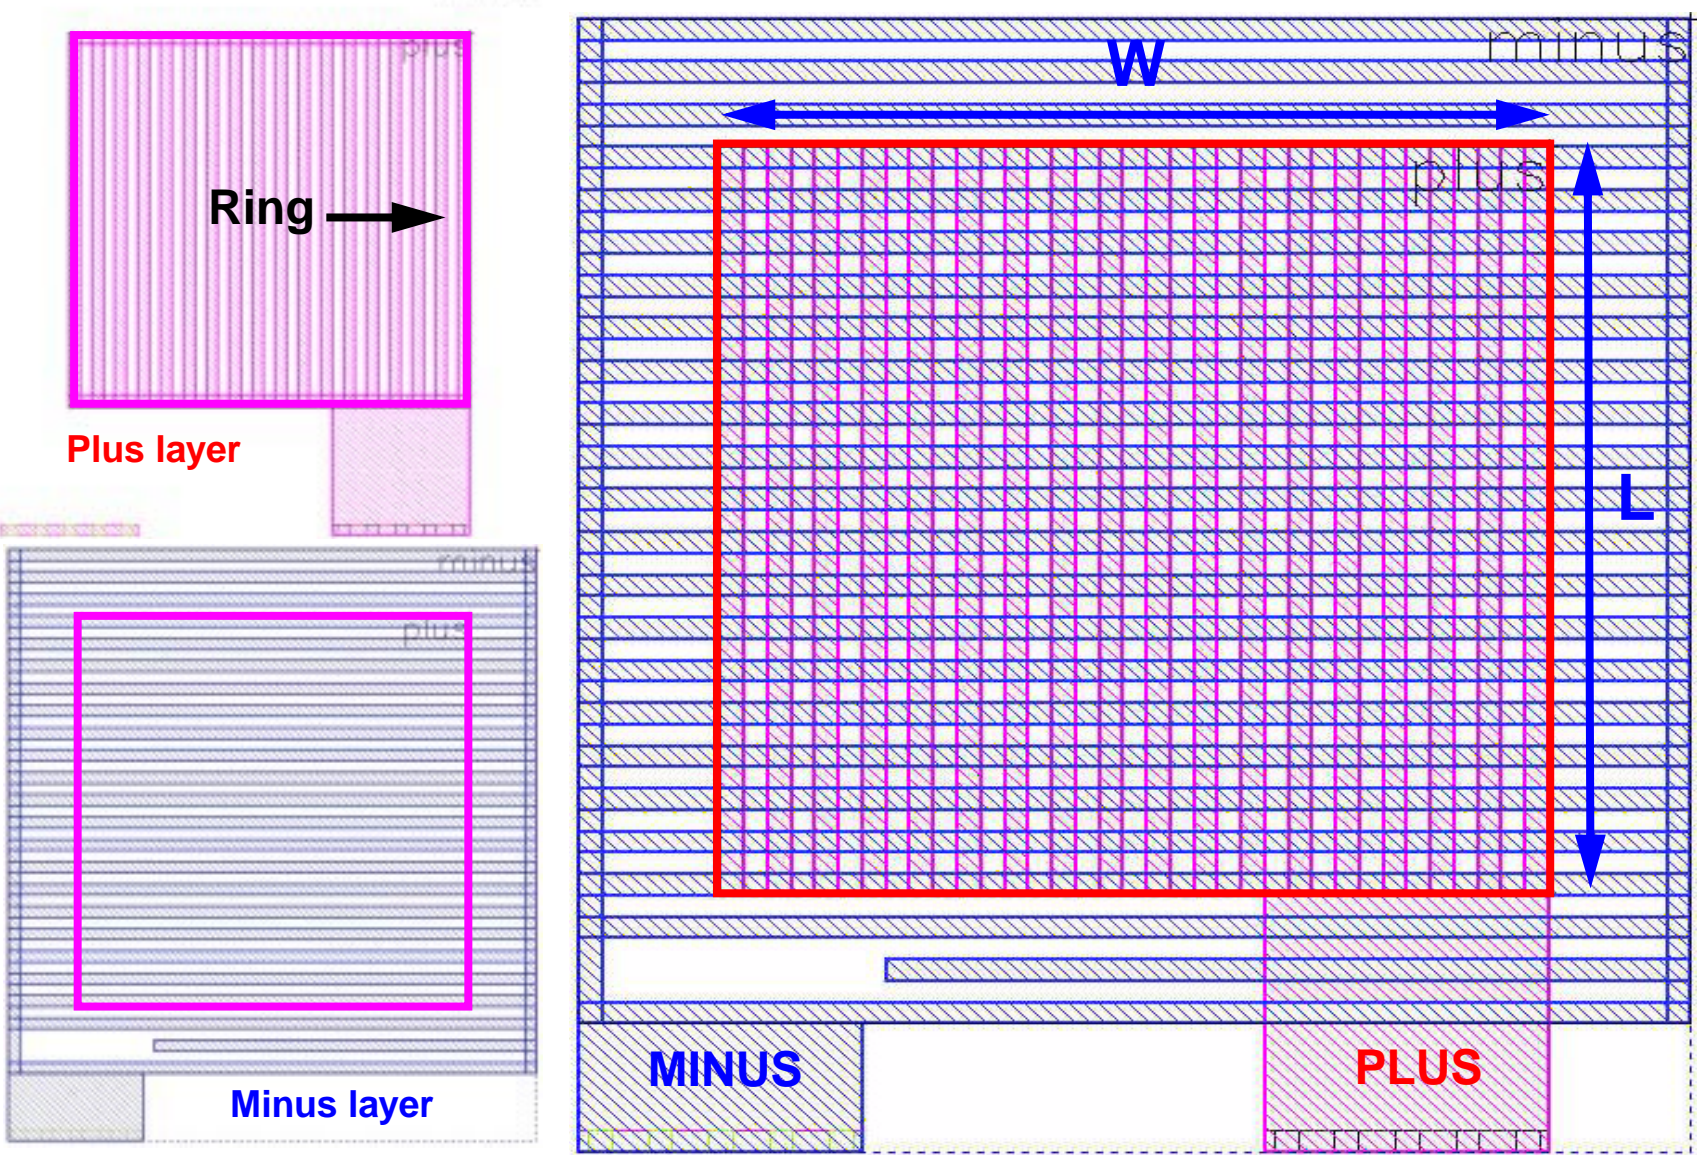

Figure 2 - Top view of cstrip Pcell (Layout)
2. See figure 2.
cperi b	is the desired perimeter of the PLUS striped layer of the capacitor (see figure 2) (float)
The layout of the striped stacked metal capacitor is a stack of parallel stripes, orthogonal from one metal level to the next one. Stripes have both their width and spacing predefined. These stripes are connected together with a metal ring, with the same width as stripes (figure 2).
$C_{1x\text{plate}}$  ( $C_{xx\text{plate}}$ ) : capacitance value of the plate region of internal ring (two stripes: see figures 2 and 3)